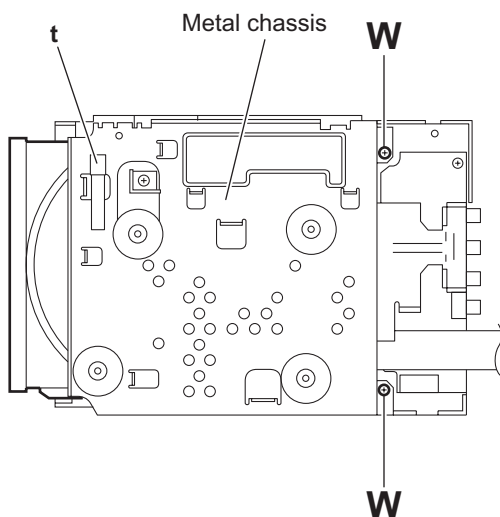

Fig.26
- From the top side of the main body, remove the two screws **W** and take out the metal chassis. (See Fig.26.)